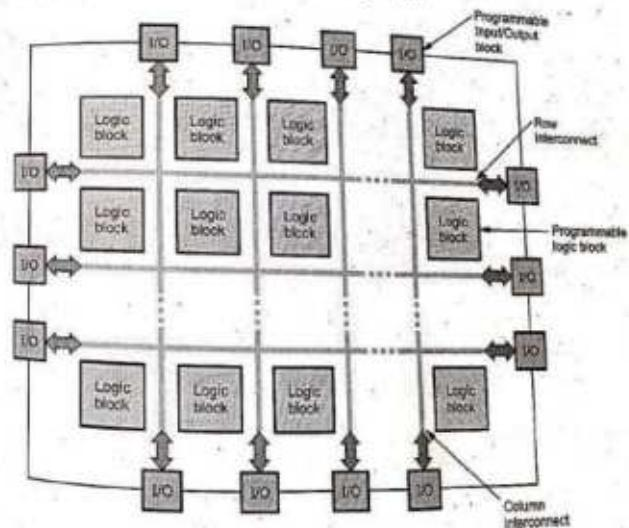

Fig. 7.17.1 Basic architecture of FPGA
- The basic architecture of FPGA consists of an array of logic blocks with programmable row and column interconnecting channels surrounded by programmable I/O blocks as shown in Fig. 7.17.1.